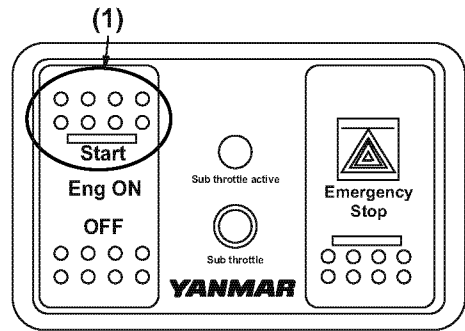

Figure 3
5. Press the ignition switch (Figure 3, (1)) and the following change occurs:
To start the engine, press Start (upper half) of ignition switch (Figure 3, (1)).